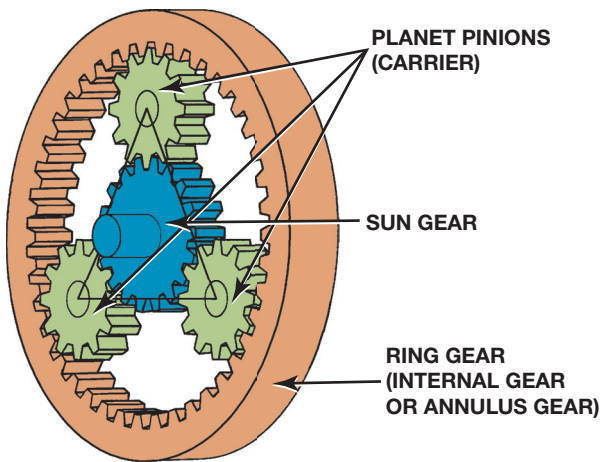

FIGURE 1-21 A typical planetary gear set showing the terms that are used to describe each member.
3. **Planet carrier**—It holds the planet gears (also called *pinions*) in position. ● **SEE FIGURE 1-21.**